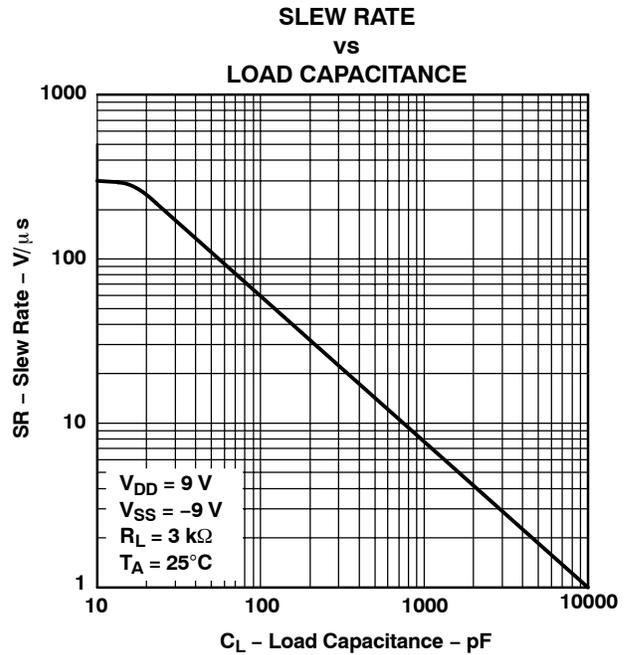

Figure 10.
- (1) See Figure 10 to select the correct values for the loading capacitors (C1, C2, and C3), which are required to meet the RS-232 maximum slew-rate requirement of $30 \text{ V}/\mu\text{s}$. The value of the loading capacitors required depends on the line length and desired slew rate, but typically is 330 pF.